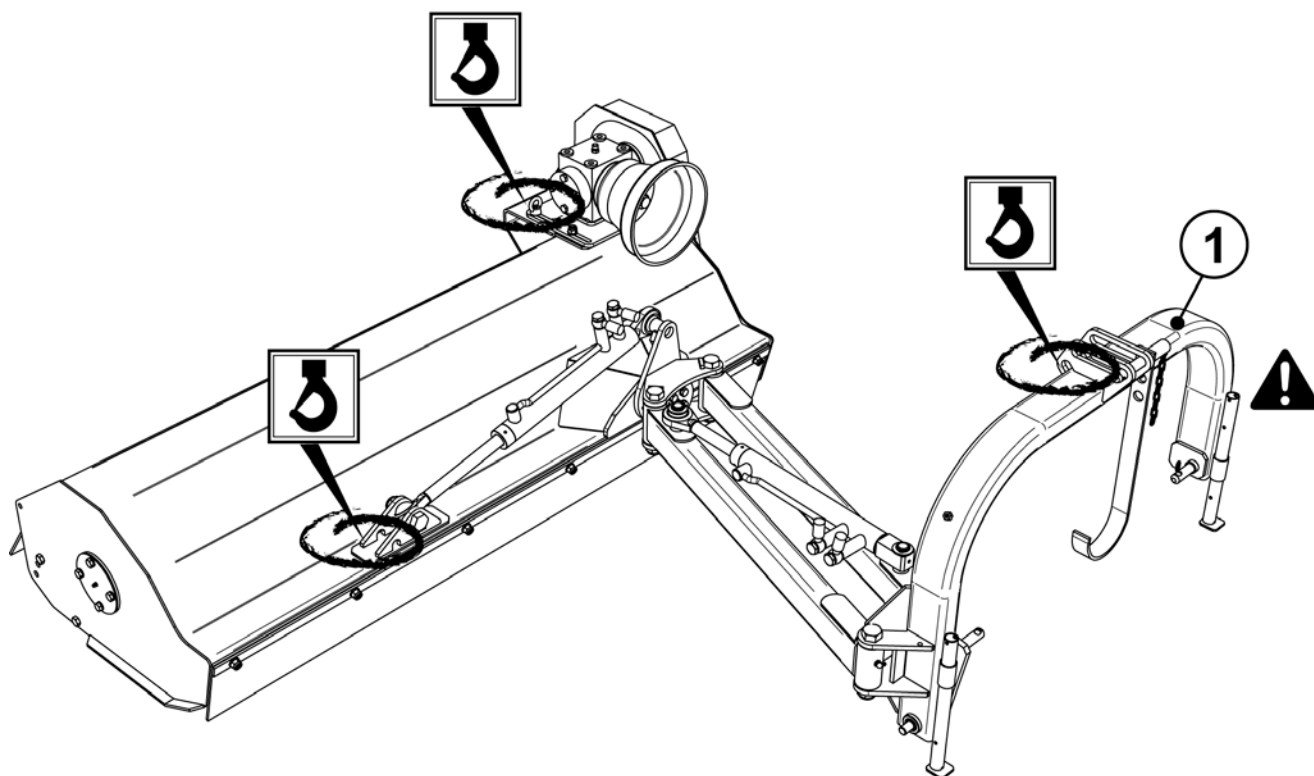

FIG. 4.1
**To lift the machine use safety hooks and cables with a suitable lifting capacity, to be inserted only in the points indicated for lifting, identified by the decals applied on the machine (FIG.4.1).**